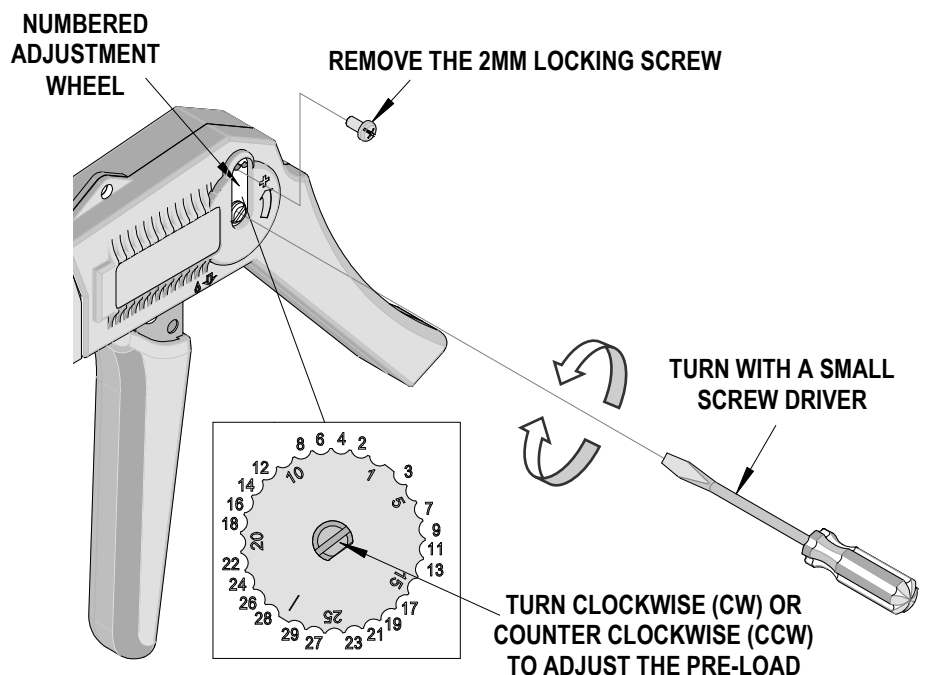

Figure 3
1. Remove the 2mm locking screw from the numbered adjusting wheel using a screw driver. See Figure 3.
| | 69008-1124 | Manual Hand Tool | Figure 3 |